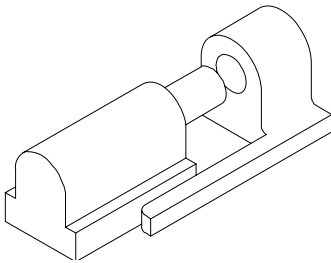
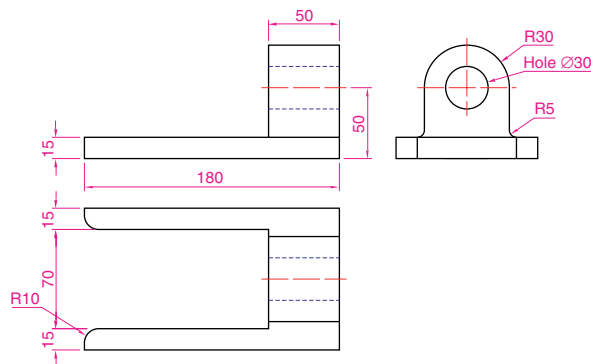

Fig. 7.23 Exercises 1, 2 and 3 – an isometric drawing of the three parts of the slider on which these exercises are based
Fig. 7.24 Exercise 1
Fig. 7.23 is an isometric drawing of a slider fitment on which exercises **1**, **2** and **3** are based.
1. Fig. 7.24 is a first angle orthographic projection of part of the fitment shown in the isometric drawing in Fig. 7.23. Construct a three-view third angle orthographic projection of the part.